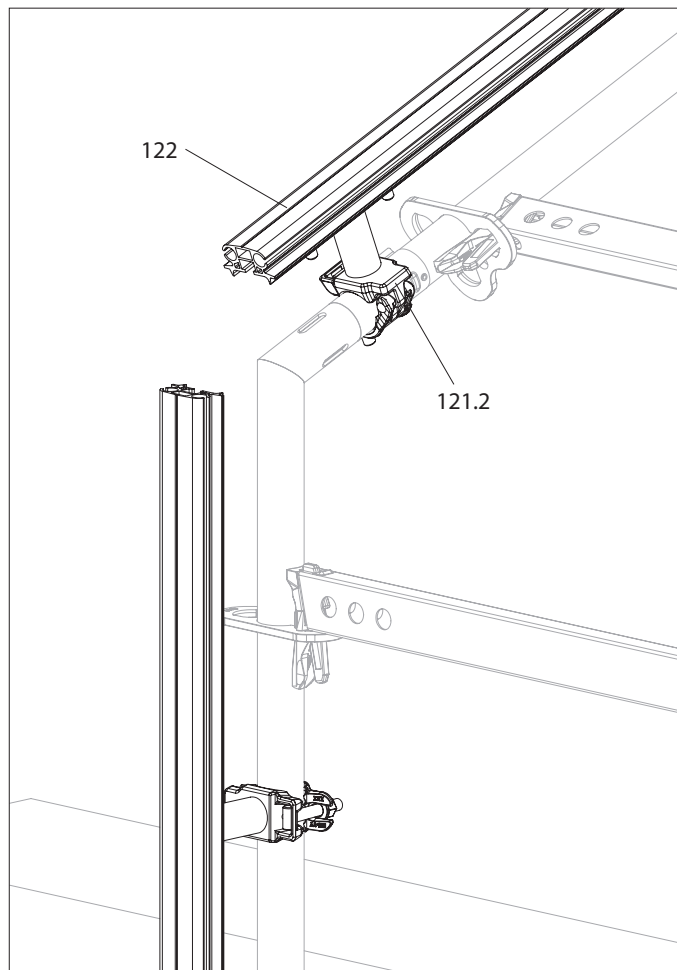

Fig. A14.02
1. Cut the LGS Keder Track URK (122) to the required length and remove the burr.
2. Slide the terminal strip (121.1) on the Keder Connector URV (121) into the T-groove (122.1) of the Keder Track URK and bolt it into place.
3. Install pre-assembled keder tracks with the coupling side (121.2) of the keder connector on the respective vertical. (Fig. A14.02) For changes of direction, leave some space between the tracks at the joint for easier threading of the tarpaulin.